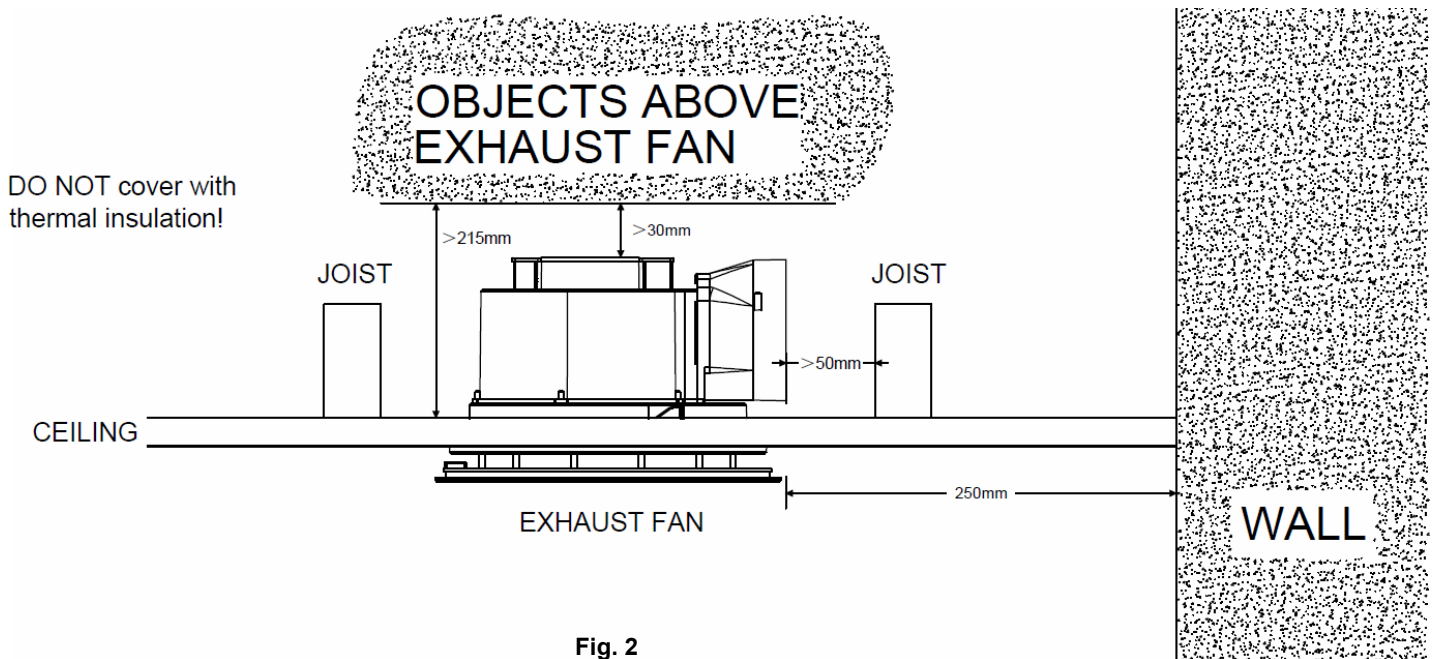

Fig. 2
- Ensure all the clearance values to structural building elements are maintained according to the clearance diagram in Fig. 2.
Before installation, please plan and check the ceiling space to make sure that there are no obstructions such as ceiling joists and there is sufficient height clearance for the motor housing. Refer to the below Figure 2 for the clearance requirements.
**NOTE:** Ensure clearance requirements listed in Fig. 2 above are met prior to cutting into the ceiling.
**NOTE: Ensure clearance requirements listed in Fig. 2 above are met prior to cutting into the ceiling.**